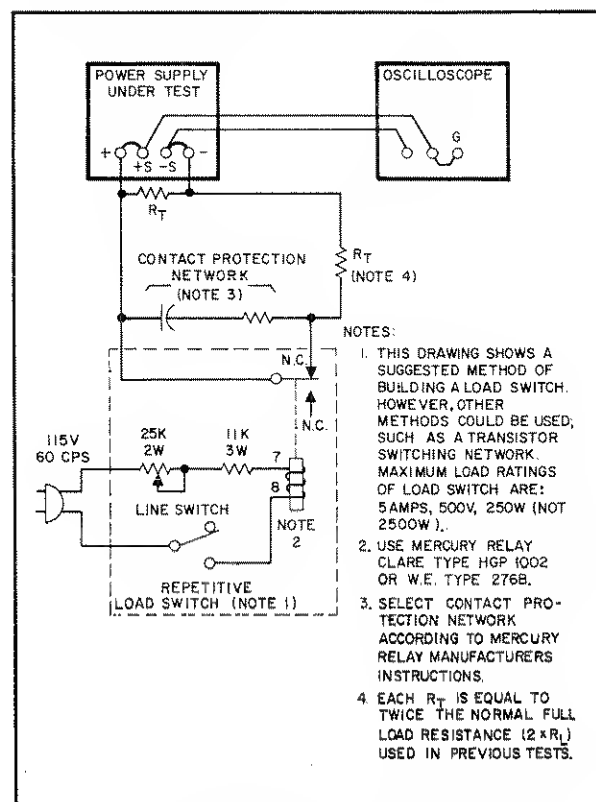

Figure 5-4. Transient Recovery Time, Test Setup
| Repetitive Load Sw. | Rate: 60Hz, 2 μ sec. rise and fall time. | Measure transient response. | See Figure 5-4. |
5-34 A mercury-wetted relay, as connected in the load switching circuit of Figure 5-4 should be used for loading and unloading the supply. When this load switch is connected to a 60Hz AC input, the mercury-wetted relay will open and close 60 times per second. Adjustment of the 25K control permits adjustment of the duty cycle of the load current switching and reduction in jitter of the oscilloscope display. This relay may also be used with a 50Hz ac input.
5-35 The maximum load ratings listed in Figure 5-4 must be observed in order to preserve the mercury-wetted relay contacts. Switching of larger load currents can be accomplished with mercury pool relays; with this technique fast rise times can still be obtained, but the large inertia of mercury pool relays limits the maximum repetition rate of load switching and makes the clear display of the transient recovery characteristic on an oscilloscope more difficult.
- a. Connect test setup shown in Figure 5-4. 80h load resistors (R_T) are twice normal value of full load resistance.